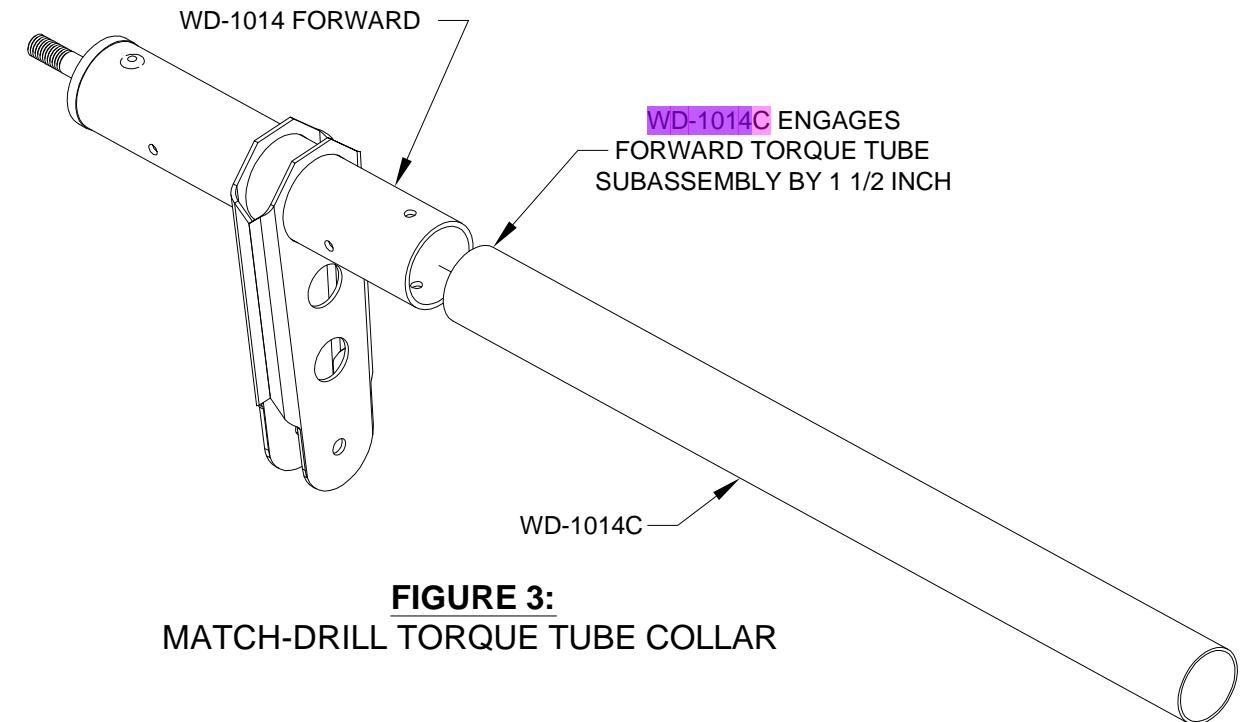

FIGURE 3:
Step 3: Insert **WD-1014C** Torque Tube Collars in the open ends of the **WD-1014 FORWARD** Forward Torque Tube Subassemblies as shown in Figure 3.
Using a #30 bit, match-drill the torque tube collar using the holes in the forward torque tube subassemblies as drill guides. See Figure 3. Install a cleco in each hole as it is match-drilled. Using a #12 bit, final-drill through both sides of the forward torque tube subassembly and torque tube collar. Install a bolt, washer, and nut as shown in Figure 4 to hold alignment while the other bolt hole is final-drilled #12.